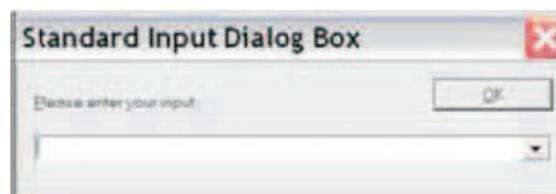
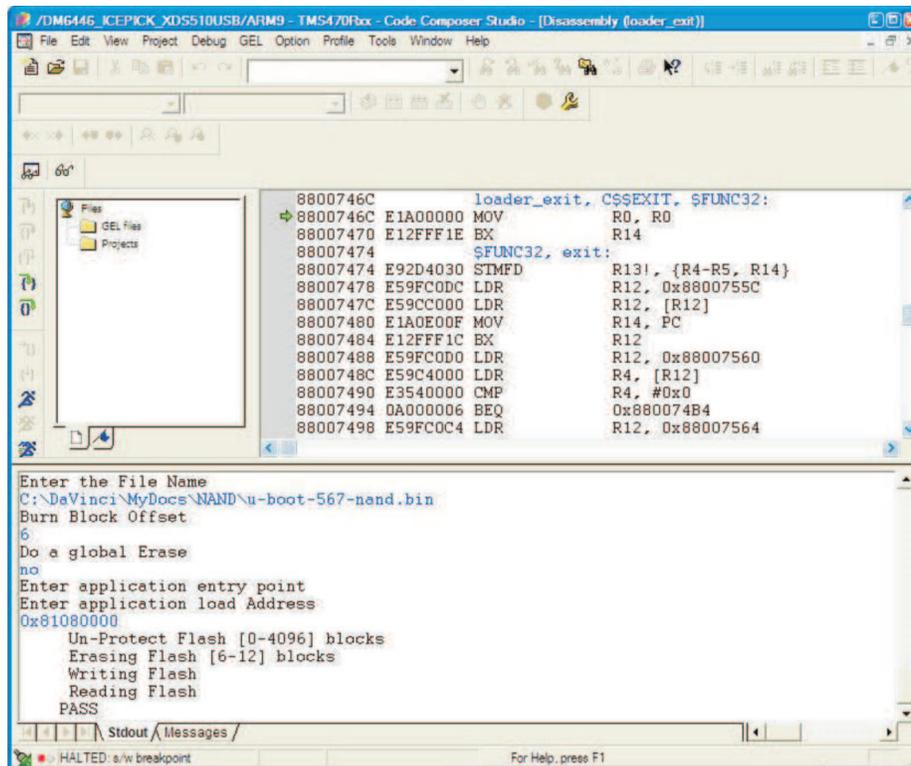

Figure 3. Standard Input Dialog Box
Figure 5. Successful u-boot-567-nand.bin Flashing Screen
2. Run flashwriter_nand.out by either clicking Debug → Run or hit the F5 key. A dialog box will show as in Figure 3. Enter the local Windows path to the first stage boot loader file, such as `c:\temp\ubl_nand.bin`. Then, it will now ask you for a second parameter, the offset; enter “1” and press return. It will now ask you for a third parameter, global erase; enter “y” and press return.
- Load the flashwriter_nand.out program again by selecting File → Reload Program from the Code Composer Studio menu and run it by either clicking Debug → Run or hit the F5 key. Again, a dialog box will show as in Figure 3. Enter the local Windows path to the second stage boot loader file, such as c:\temp\u-boot-567-nand.bin. Then, it will ask you for a second parameter, the offset; enter 6 and press return. It will now ask you for a third parameter, global erase; enter n and press return. After that, it will ask you for a fourth parameter, application entry point; enter 0x81080000 and press return. For the fifth parameter, application load address; enter 0x81080000 and press return. This process may take several minutes; to verify, Figure 5 shows a screen capture of what a successful log should look like.